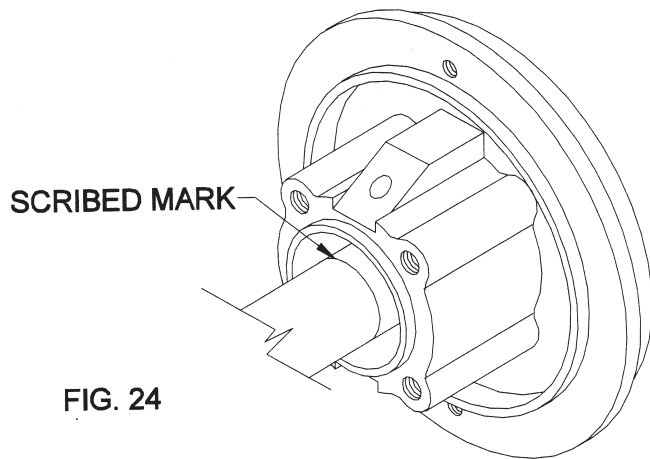

FIG. 24
1. Blue the shaft sleeve (16). Scribe a mark at the face of stem plate to use as reference for installation of mechanical seal. (Fig. 24)